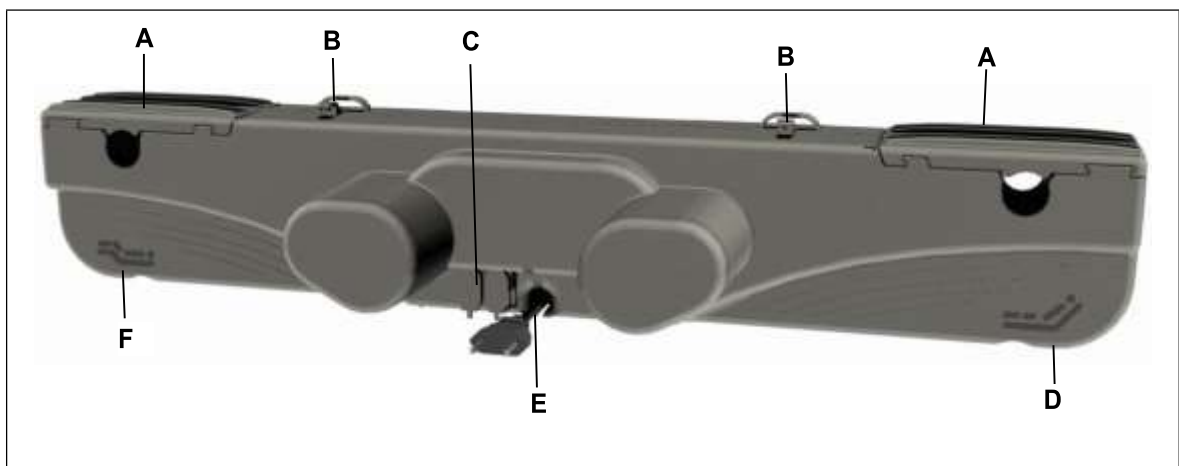

Figure 4 Main components of the OKIMAT 6 double drive (variant with attached power cord)
- 2 Pull strongly on the shutters to the side (A). The slots (B) for the brackets (D) are uncovered.
- 3 Align the OKIMAT 6 & OKIMAT 6B next to your product. The slots for the head and foot sides must be properly aligned with the correct brackets on your product (refer to the symbols on the OKIMAT 6 & OKIMAT 6B as described in Figure 4).
- 4 Push the drive in so that the brackets (D) fit into the slots (B).
- 5 Close the shutters (A) on the drive by snapping them back in. The OKIMAT 6 & OKIMAT 6B is now securely attached to the end product.